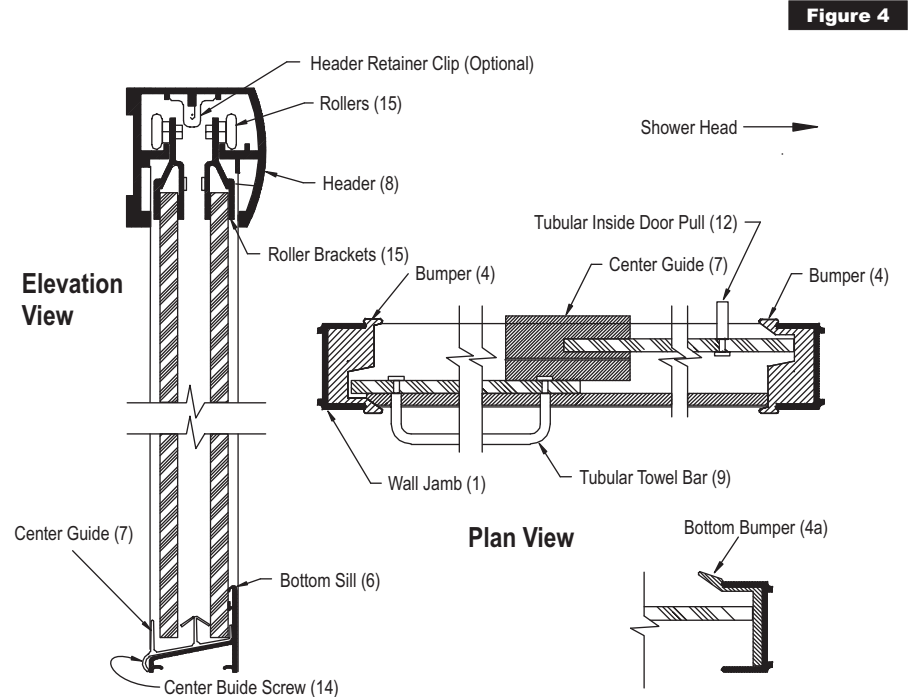

Figure 4
10. From inside of unit, drill #31 holes through headers into wall jambs, 11/16" from bottom of header. Secure header to wall jambs with two #6 x 3/8" screws (14).
11. After doors have been installed and rollers have been adjusted install the two snap retainers (19) onto the upper center rib inside the header. Slide both doors to one side, starting at the "open" wall, push the retainer into place until the "snap" is heard toward the end. Slide the doors to the opposite side and repeat process starting from the opposite wall. **NOTE: One snap retainer will need to be trimmed to fit; retainers will not overlap but need to butt together. Refer to Figure 4 for cut away view of installation.**